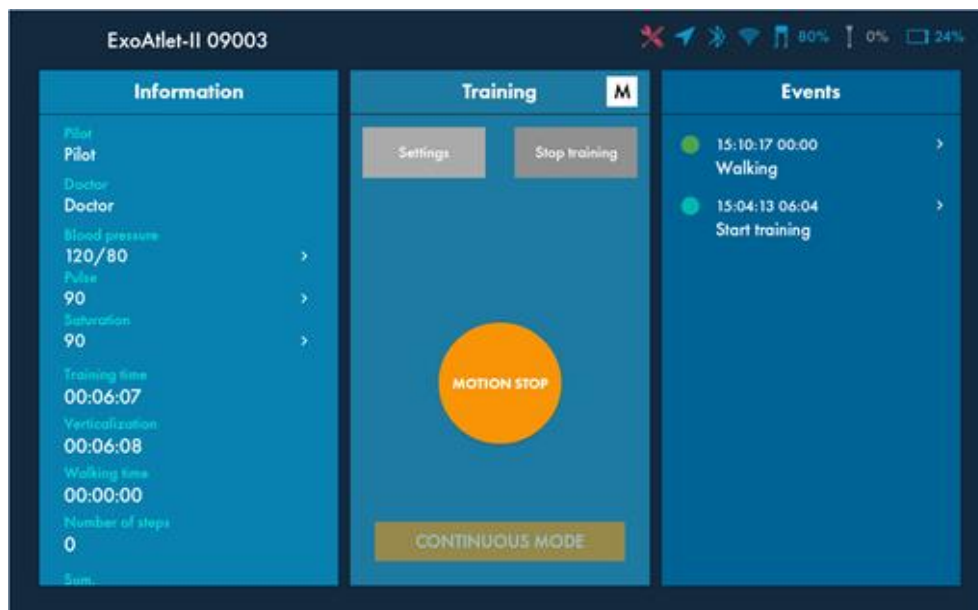

Figure 65
**Continuous mode:** the mode when walking initiates immediately after pressing "Walking" button on Training screen – after 3 beeps exoskeleton starts continuous walking starting from the left leg. "Motion stop" button will appear on the screen, also "M" indicator will appear on the top right side of "Training" section showing that exoskeleton is currently in motion. You will be able to see the chosen mode in the bottom side of "Training" section -(see Figure 65). Exoskeleton can be stopped using stop button on Tablet PC or stop button on the left handle. After pressing one of the stop button exoskeleton will make the last step and then get into standing pose. When finished, it will beep one more time to show that device is ready for the next motion.